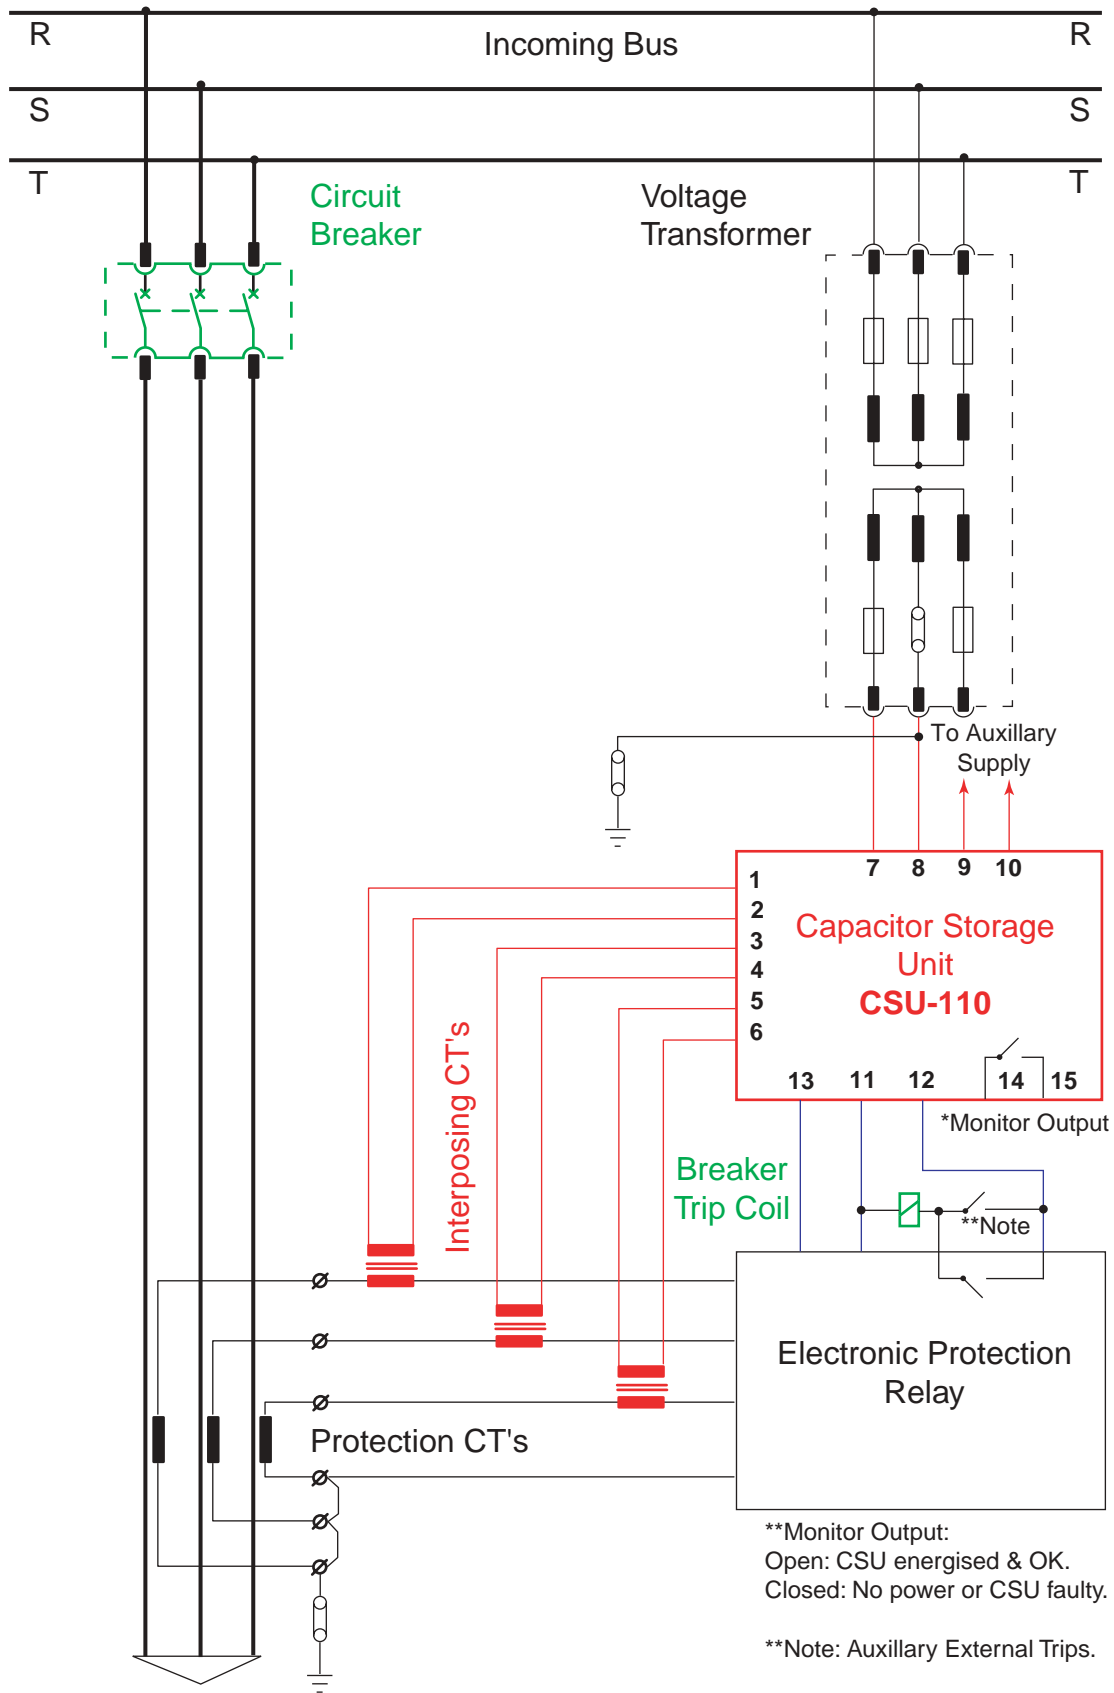

Fig 2
The Capacitor Storage Unit is simple to install. Refer to the instructions below and to the typical connection diagram shown in Fig 2 on p6.
3. If not already fitted install a VT and connect secondaries to VT input as shown in Fig 2 p6.
6. Connect the trip coil as shown in Fig 2 p6.